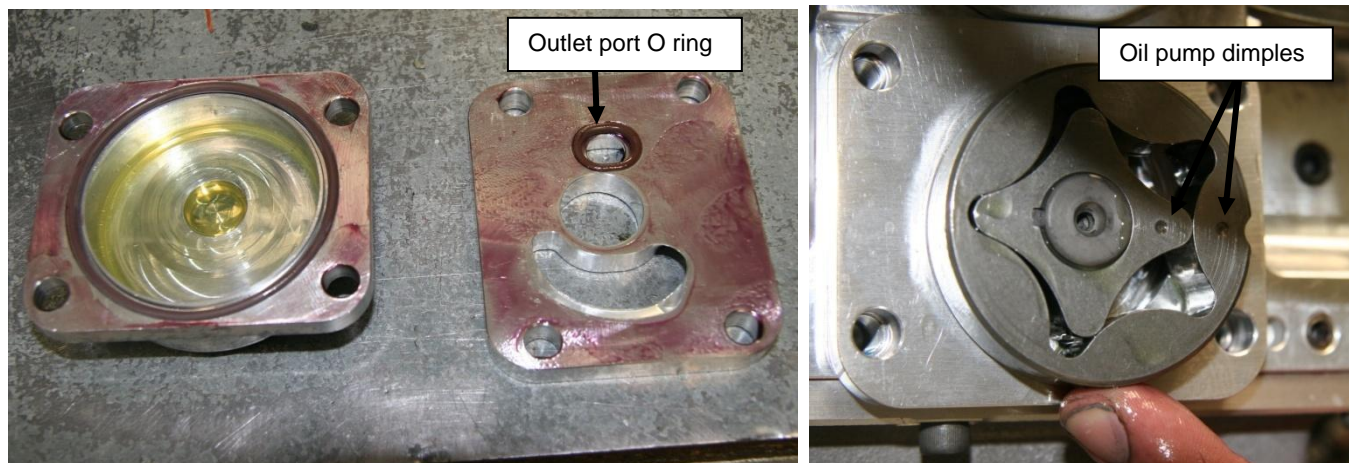

Figure 195 – Fitting Oil Pump & Port Plate
- Fit a new BS112V O ring to the port plate to seal the pressure delivery port (Figure 195).
- Fit the port plate to the engine, then fit the new woodruff key and the oil pump gears to the camshaft. Ensure that the key is sitting correctly and that the dimples on the oil pump are both visible as shown in Figure 195. Occasionally the key may need to be lightly sanded to fit the cam or pump gears. This can be done by placing a piece of 600 grit wet and dry emery paper on a flat surface and rubbing the key against it. The fit needs to be snug however – do not remove too much material.